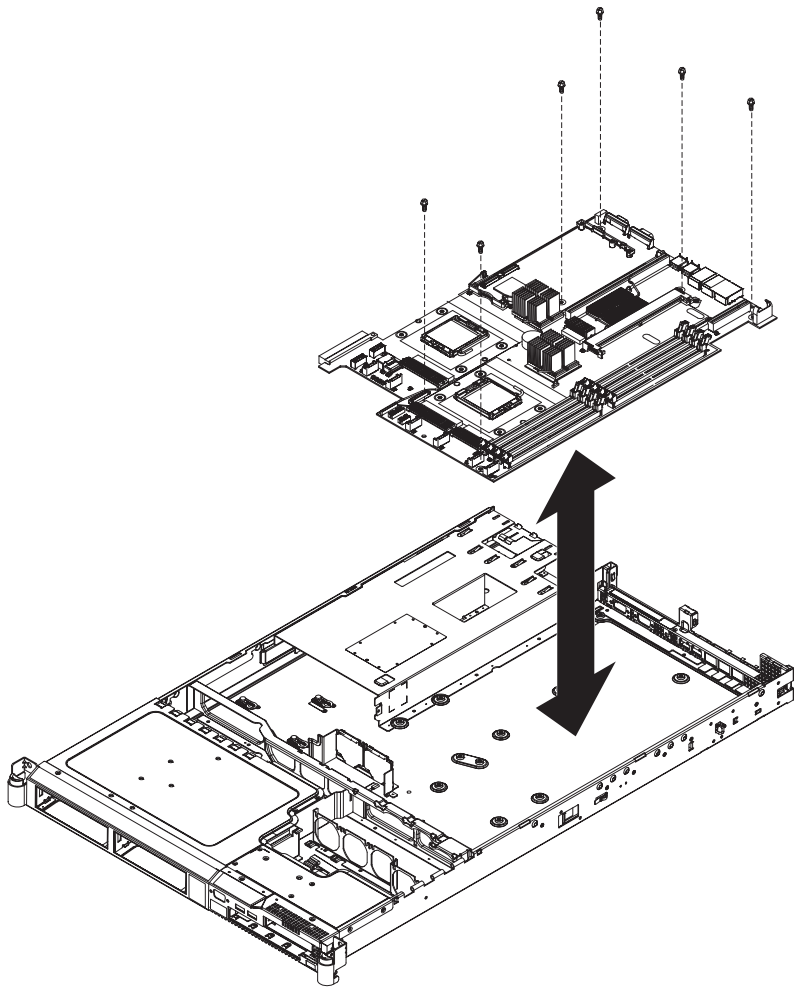

Figure 293. The placement of the screws that secure the SAN Volume Controller 2145-8G4 system board
2. Replace the six screws on the system board, as shown in Figure 293 on page 293, to secure the system board to the chassis.